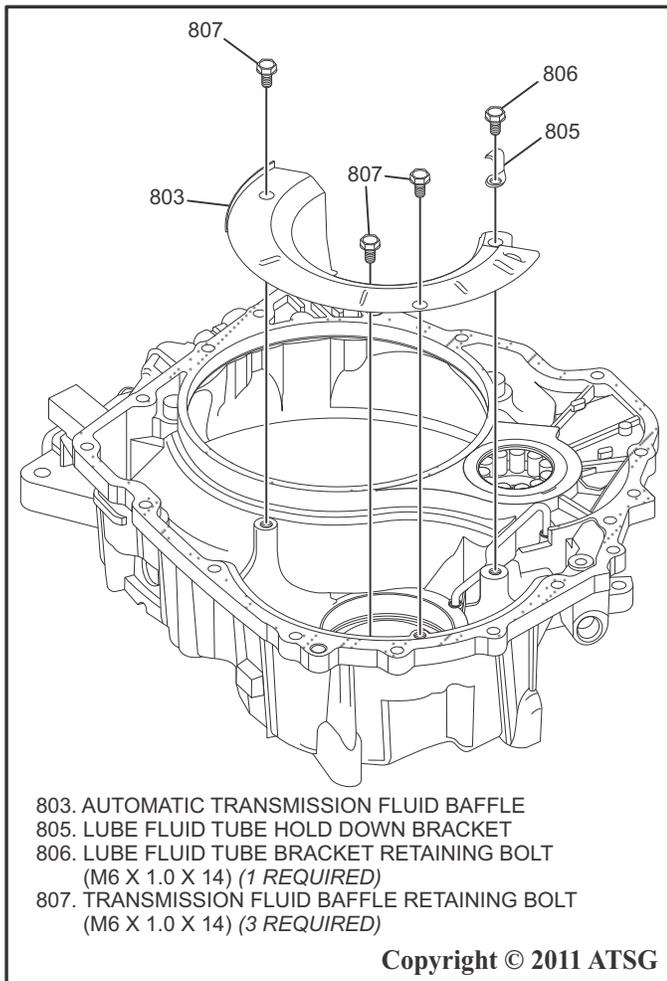

Figure 69
11. Install the automatic transmission fluid baffle as shown in Figure 69.
12. Install and hand tighten the lube fluid tube hold down bracket and the hold down bracket retaining bolt as shown in Figure 69.
13. Install and hand tighten the three automatic transmission fluid baffle retaining bolts as shown in Figure 69.